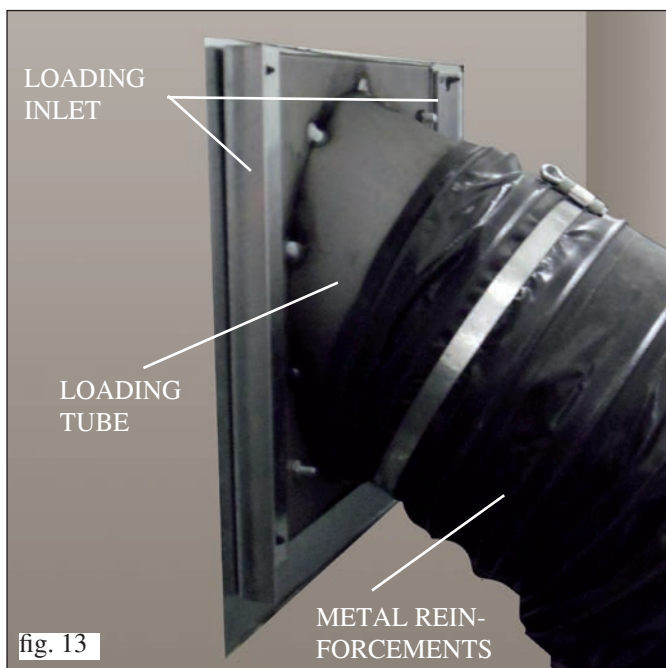

fig. 13
- Secure the loading inlet to the mantel using the self-tapping screws supplied, using the holes on the mantel frame; reinforce the plasterboard, attaching metal profiles on the rear (fig. 13).
INSTALLING THE LOADING TUBE (fig. 13 and 14)
- Secure the flexible tube to the outlet on the loading inlet using the clamps supplied (fig. 13)